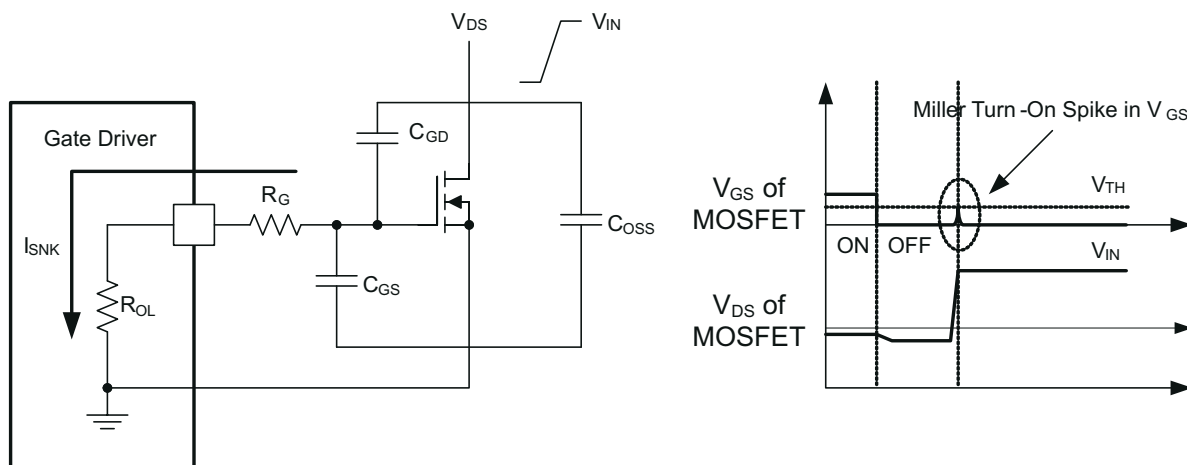

图 7-3. Low Pull-Down Impedance in UCC27614 (Output Stage Mitigates Miller Turnon Effect)
An example of a situation where Miller turnon is a concern is synchronous rectification (SR). In SR application, the dV/dt occurs on MOSFET drain when the MOSFET is already held in OFF state by the gate driver. The current charging the C_{GD} Miller capacitance during this high dV/dt is shunted by the pulldown stage of the driver. If the pulldown impedance is not low enough then a voltage spike can result in the V_{GS} of the MOSFET, which can result in spurious turnon. This phenomenon is illustrated in 图 7-3.